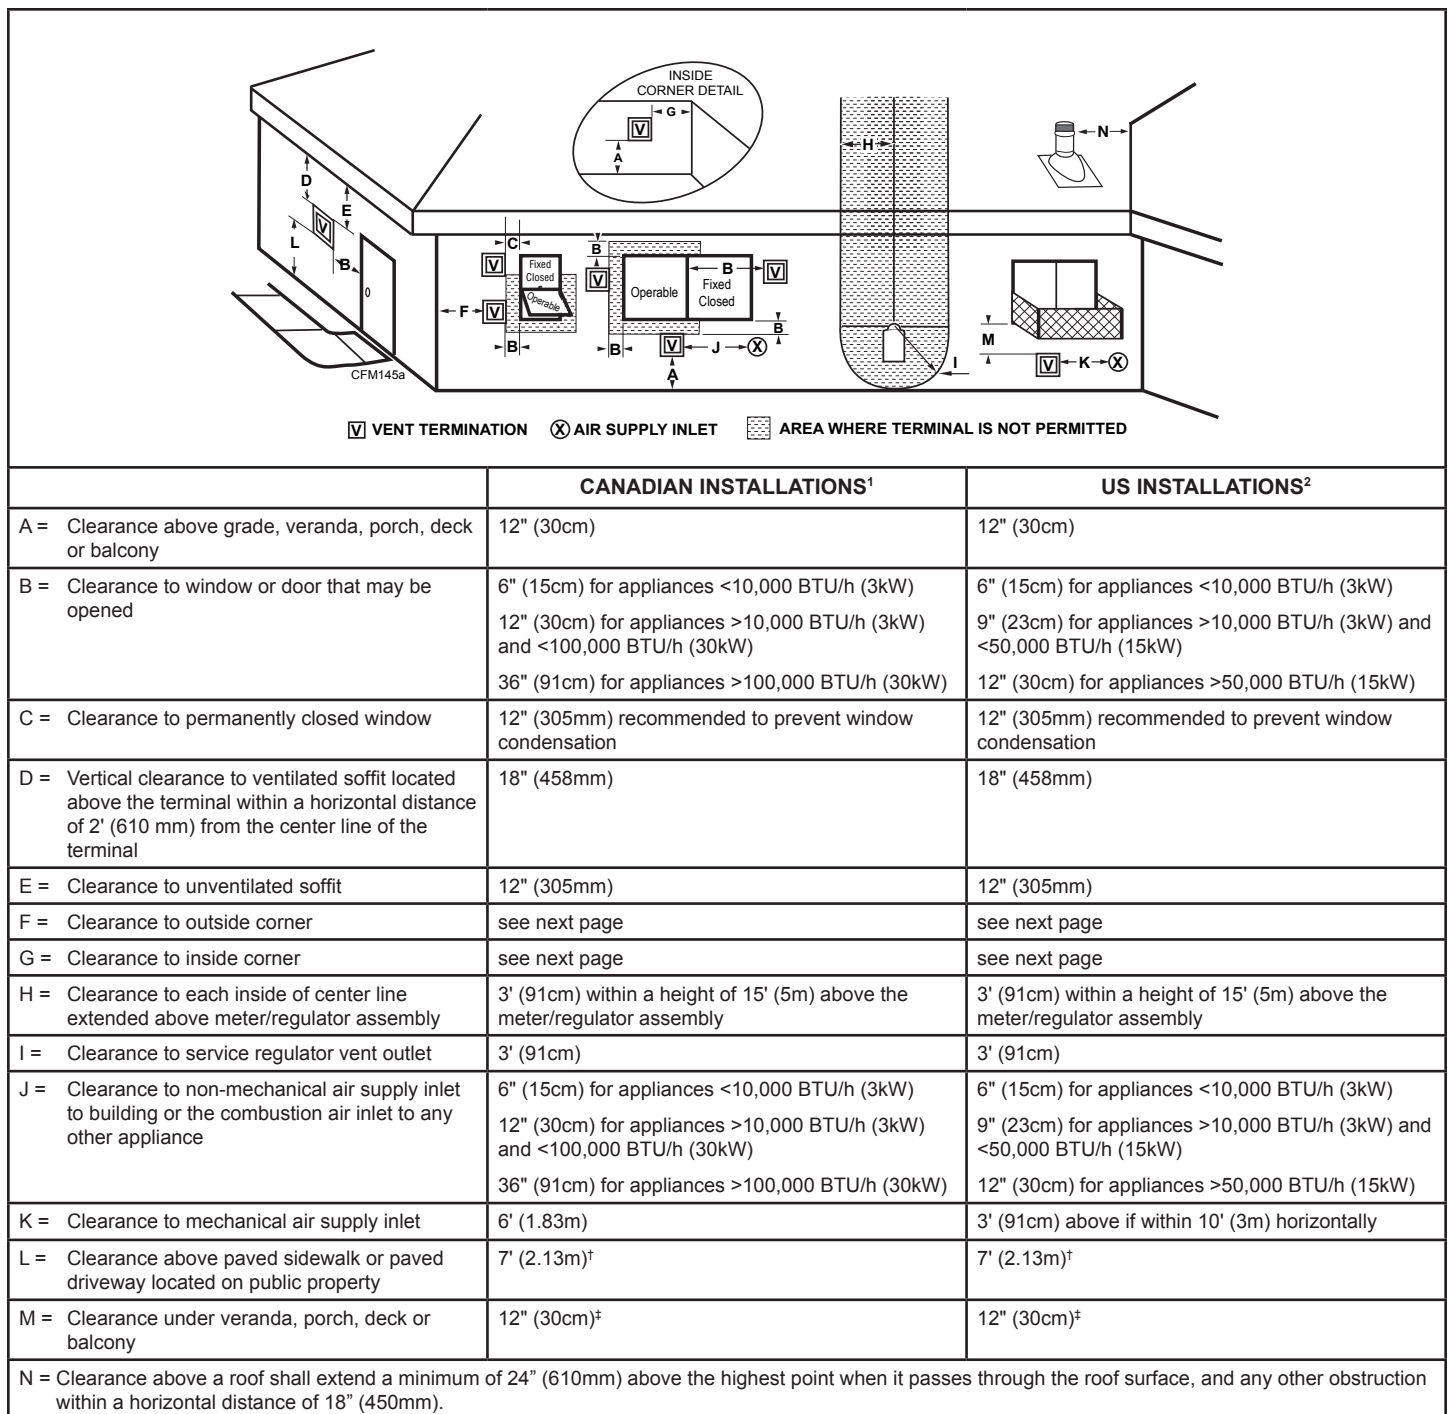

Figure 11 - Vent termination clearances.
- Termination height must conform to roof clearance as specified in Figure 11.
When planning the installation, consider the location of the vent terminal and clearances. Some of the most common clearances to keep in mind are shown in Figure 11.
Important: All vent clearances must be maintained. Check your vent termination clearances against Figures 11 and 12.